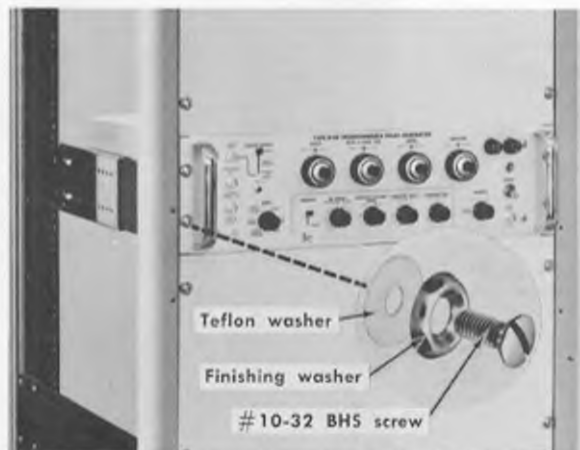

Fig. 7-9. Procedures for inserting the instrument and for removing it from the rack after the slideout tracks have been installed.
4. Referring to Fig. 7-9, insert the instrument into the rack but do not connect the power or program cables and do not install the securing screws until the following adjustments have been made.
4. When the adjustments have been completed and the slideout tracks operate smoothly, connect the power and program cables to the connectors on the rear panel and secure the instrument into the rack with the securing screws and washers as shown in Fig. 7-9.
After the slideout tracks have initially been installed and adjusted in the rack, the Type R116 can be removed or reinserted at any time by following the procedures given in Fig. 7-9. No further adjustments are normally required.